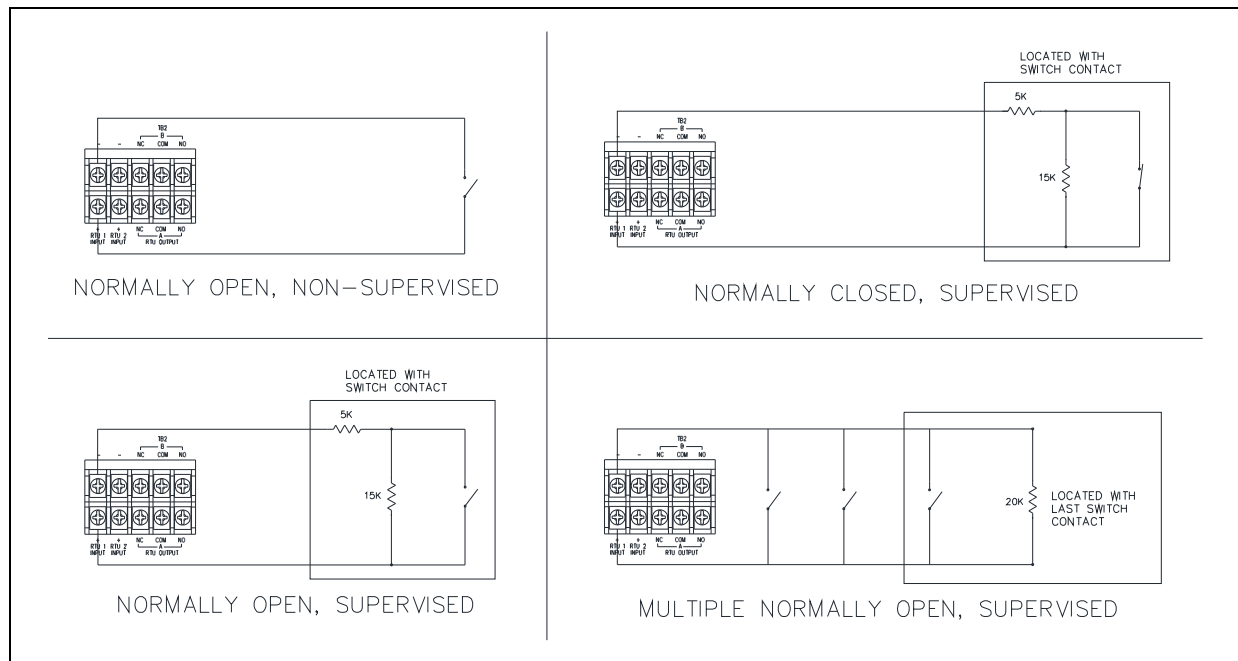

Figure 6. RTU Input Wiring Configurations for Cable Monitoring
5. Install end-of-line resistors as shown to enable RTU input-cable monitoring (see Figure 6).